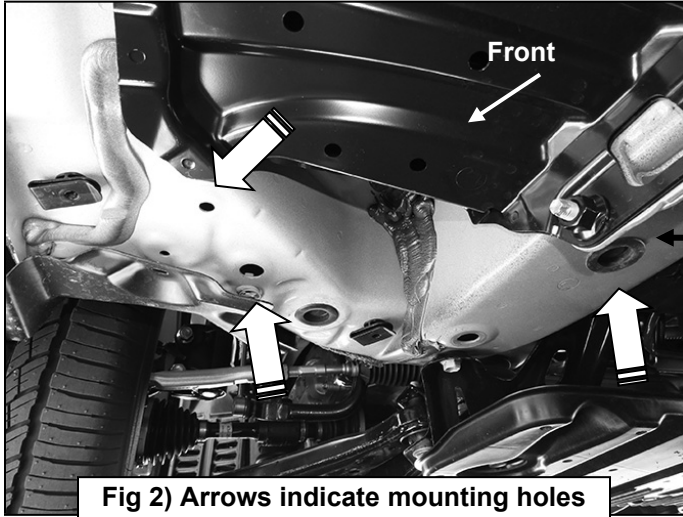

Fig 2) Arrows indicate mounting holes used for front Bracket installation
- Locate the driver side front mounting location, **(Figure 2)**. Remove the rubber plug from the hole closest to the tie down loop. Insert (1) 12mm x 30mm Bolt Plate into the factory hole, **(Figures 3 & 4)**.
- Line up the mounting tab on the Bracket with the factory hole at the point where the cross member joins the frame rail, **(Figures 2 & 6)**. Insert (1) 6mm Nut Plate into the larger inner hole and line up the nut with the hole toward the outside under the mounting tab on the Bracket, **(Figures 6—8)**.